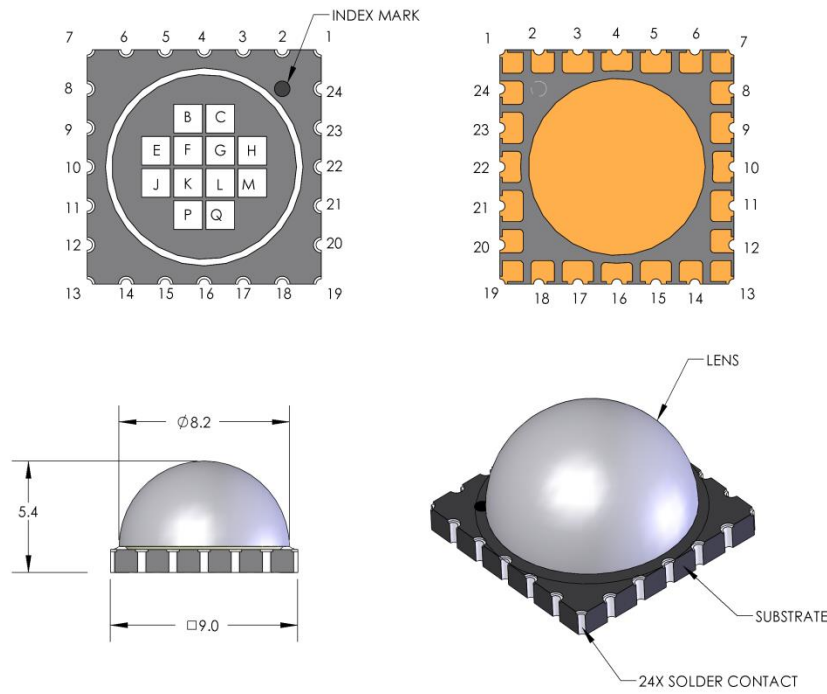

Figure 1: Package Outline Drawing
Note for Figure 1:
**Note for Figure 1:**